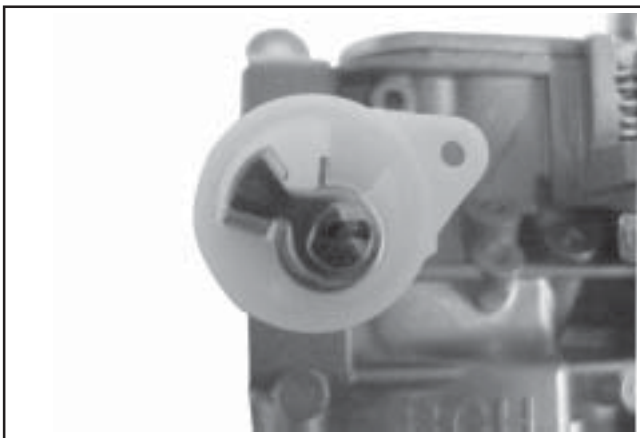

**Figure 5-34. Installing Accelerator Pump Housing Screws and Hose.**
7. Install the new diaphragm spring and reinstall the accelerator pump cover. Secure with the three new screws. Torque the screws to  $2.0 \pm 0.6 \text{ N}\cdot\text{m}$  ( $18.2 \pm 5.2 \text{ in. lb.}$ ). See Figure 5-34.
8. Install the new clips onto each end of the new vacuum hose, and connect the hose onto the fittings. See Figure 5-34. Discard all the old parts.